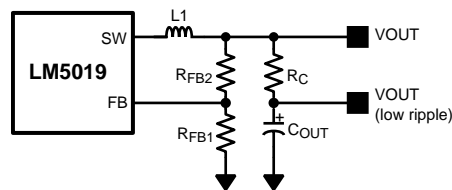

Figure 13. Low Ripple Output Configuration
This regulator regulates the output voltage based on ripple voltage at the feedback input, requiring a minimum amount of ESR for the output capacitor ( $C_{OUT}$ ). A minimum of 25mV of ripple voltage at the feedback pin (FB) is required for the LM5019. In cases where the capacitor ESR is too small, additional series resistance may be required ( $R_C$  in Figure 13 Low Ripple Output Configuration).
For applications where lower output voltage ripple is required the output can be taken directly from a low ESR output capacitor, as shown in Figure 13 Low Ripple Output Configuration. However,  $R_C$  slightly degrades the load regulation.